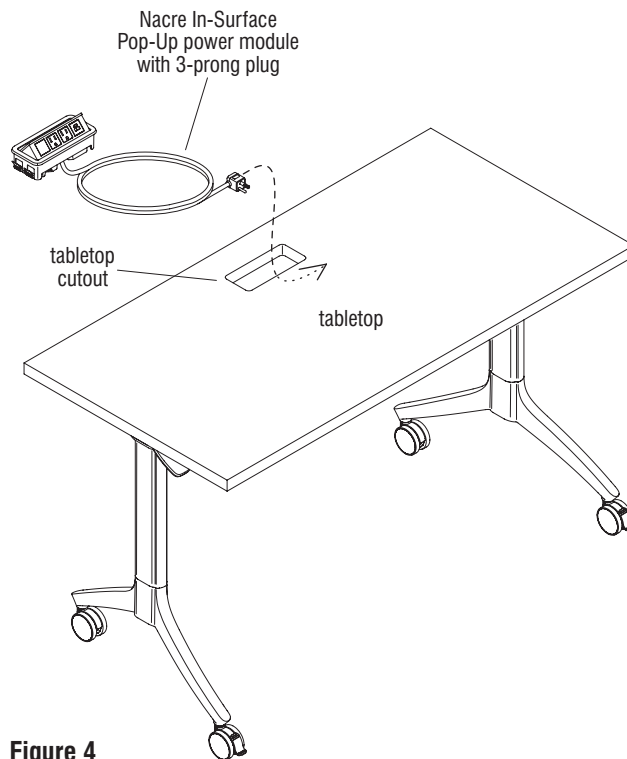

Figure 4
2. With the assembled table in the upright position, orient the Nacre in-surface pop-up power module as shown and route the plug end down through the tabletop cutout. Press the module down firmly into the cutout to secure in place, making sure the two clips on each side of the module catch under the cutout bottom edge of the tabletop (Figure 4 & Detail J).